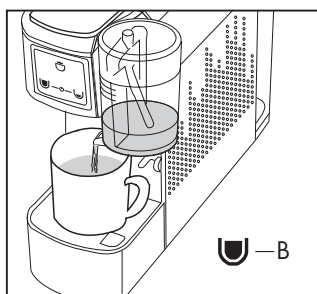

Fig. 23
- Press the button (B) ; the machine will dispense foamed milk. **(Fig. 23)**